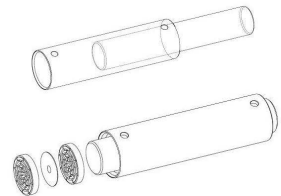

fig. 20
- Slide the pushing rod into the whipping pipe and push-out the inlet part, the 13 whipping discs (plastic) and 12 intermediate discs (metal) (resp. the whole whipping column) (fig. 20)